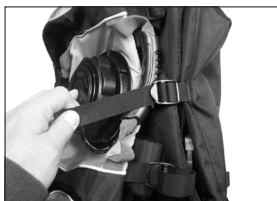

Figure 1.
1. The backpack can be folded for storage by placing the waist belt, shoulder straps and pump/hose on the back pad, folding in half and cinching with the short black webbing and buckle as shown. (See Figure 1.)